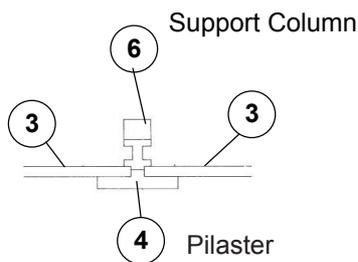

FIG. 2
4. This building is designed to be made longer by combining two or more kits. The side wall can be expanded by using the splice pilaster (4) between two wall (3) sections and gluing the support column (6) to the back of the walls - fig. 1. To accommodate the new wall size, the base must be modified. For splicing two buildings together, you must cut off one side of each base (to the outside of the narrow ridge underneath) as shown in fig. 2, and then glue the modified bases together. For more than two buildings, the middle base(s) must have both ends removed - fig. 3 - in addition to the end bases having one end removed, before gluing all together.